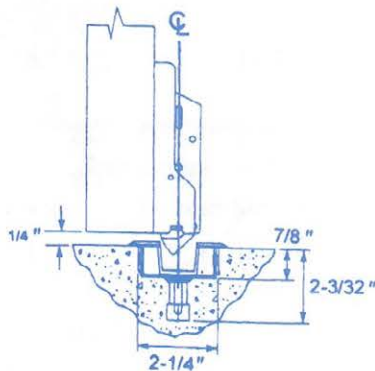

Figure 6
4. Install bottom strike into finished floor or threshold, and be sure to align center line of bottom latch with center line of bottom strike. (See Fig. 6.)